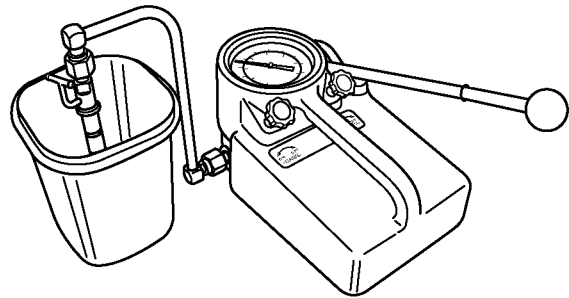

Figure 7-49
4. Pump the operating lever of the tester slowly, observing the pressure reading at the point where the fuel injector begins spraying fuel (Figure 7-49).